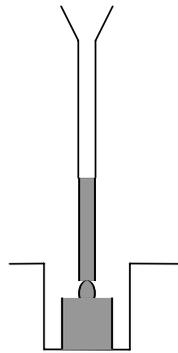

Figure 1. Pipettor Orientation
- When using 8 channel pipettors (12 channel are not recommended), hold the pipettor between the thumb and forefinger of one hand and rest this hand on the plate surface (see Figure 1). Guide the pipettor so that the tips are perpendicular to the surface of the wells, directly over the center of the resin plugs and about 2mm above the plug surface.